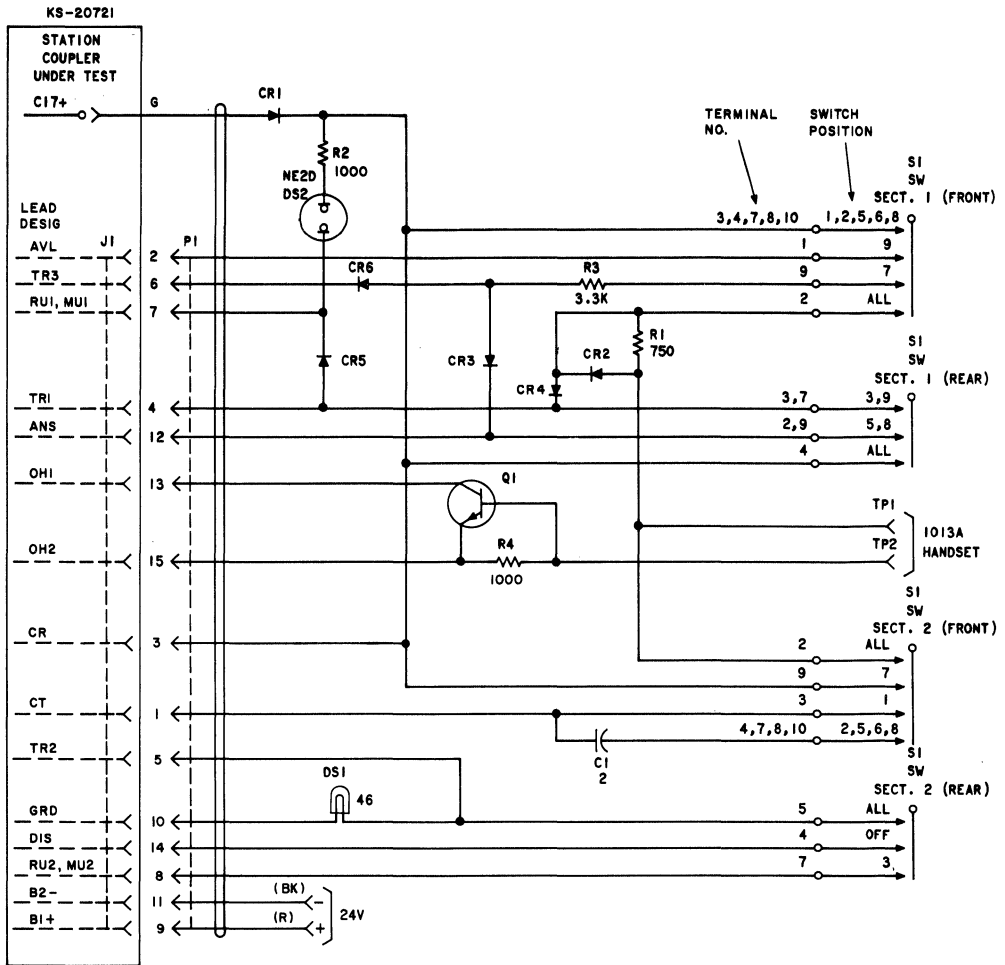

Fig. 7—KS-20721, List 15 Test Set Schematic
- Remove key system leads from Fig. 7 and 9; delete key system reference from note under Table A.